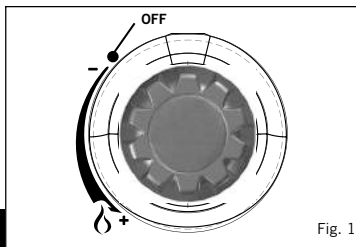

Fig. 1
- Before connecting the gas supply, firstly check that the appliance valve is in the off position by turning the control knob fully clockwise (See Fig. 1).
- To fit the Gas Container, first check that the appliance valve is in the off position by turning the control knob clockwise to its stop (See Fig. 1). Making sure that the Gas Container is kept upright, screw the container onto the valve in a clockwise direction until it is fully engaged, hand-tighten only. If the container is over-tightened, it may damage the container valve.